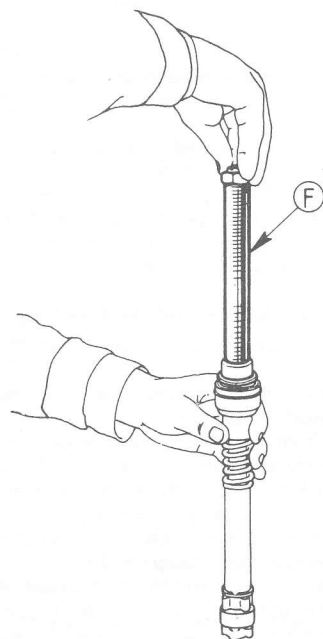

FIG 8:6 Installing the special spacer F on the shock absorber rod during assembly
- 2 Install the special spacer F (see **FIG 8:6**), on the rod of the rod-piston-and-bearing assembly and compress the rod seal spring by tightening the nyloc nut until the cup 3, of the rod seal is tight on the bearing. This is necessary to avoid distortion of the backing washer 1, when tightening the castellated nut, which would result in damage to the rubber O-ring.
- 5 Engage the assembly into the cylinder and push down slowly until the bearing spacer 10 (see **FIG 8:5**), is correctly positioned on top of the cylinder and shock absorber body. The spacer should be 3 to 3.5 mm (.118 to .138 inch) above the threaded body. On 404 models prior to 4.016.997 this figure should not